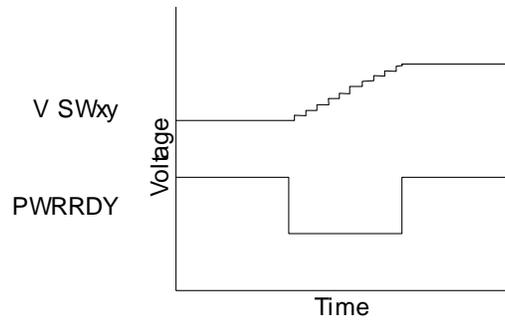

Figure 9. Relationship of Switcher Voltage to PWRRDY Signal
- PWRRDY will go low and the switcher on the MC13783 will slew from the programmed normal voltage to the programmed DVS voltage. Refer to Figure 9.